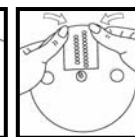

Fig. 8
3. Press the other end of the blade until it clicks into place. (Fig. 8)